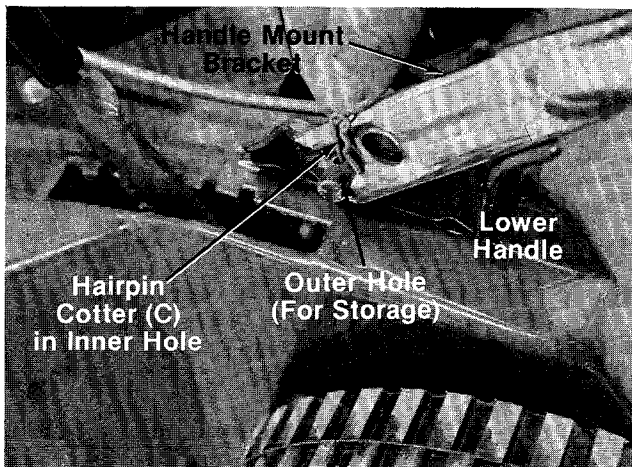

FIGURE 2.
- A (2) Hand Knobs (Folding Handle Only)
- B (2) Curved Carriage Bolts 5/16-18 x 1.75" Long
- C (2) Hairpin Cotters
- D (2) Cable Ties
- E (2) Lock Washers (Non-Folding Handle Only)
- F (2) Hex Nuts (Non-Folding Handle Only)
- ← 4. Place lower handle in position over weld pins in handle mount brackets on deck. Make certain the instruction label on the lower handle can be read from the operating position. Secure by placing two hairpin cotters (C) in inner hole on weld pins. The inner hole is for operation. The outer hole is for storage. See figure 2.